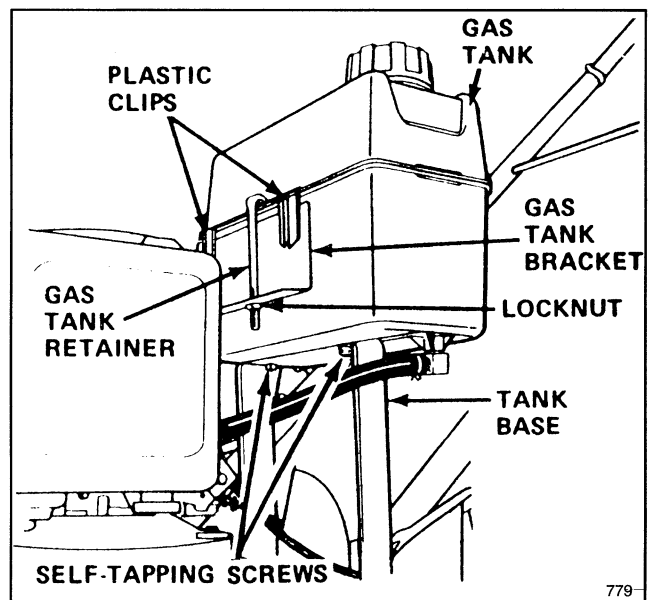

Figure 3
2. Hook the plastic clips on the rear of the gas tank onto the gas tank bracket (Fig. 3).
3. Secure gas tank to tank base with (2) self-tapping screws (Fig. 3). Do not overtighten screws.
4. Hook gas tank retainer onto gas tank and slide end of retainer into hole in tank bracket. Secure retainer to tank bracket with locknut (Fig. 3). Do not overtighten locknut.